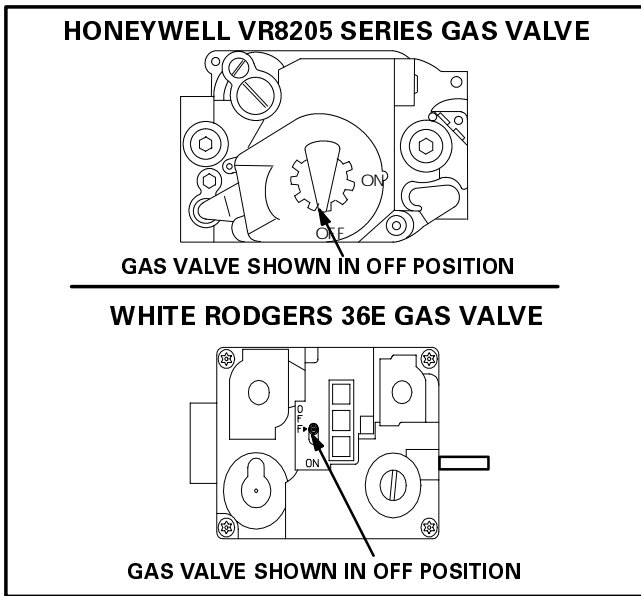

FIGURE 3
Gas Valve Operation (Figure3)
- 6- On Honeywell VR8205 gas valves, turn knob on gas valve clockwise to OFF. For White Rodgers 36E gas valves, move switch to OFF. Do not force. See figure 3.